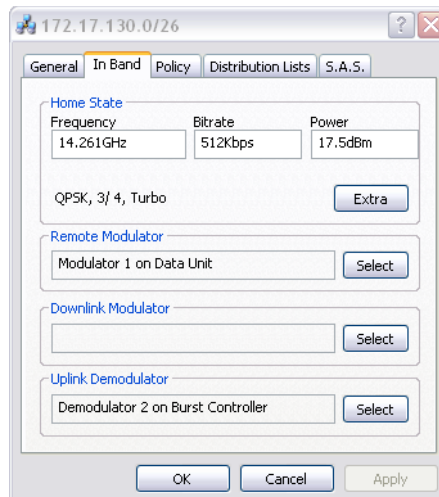

Figure 3-28 Subnet Properties, InBand tab
5. The **InBand** tab on the Properties page (figure 3-28) displays the **Home State**, the **Remote Modulator**, the **Downlink Modulator** (if selected), and the **Uplink Demodulator**.